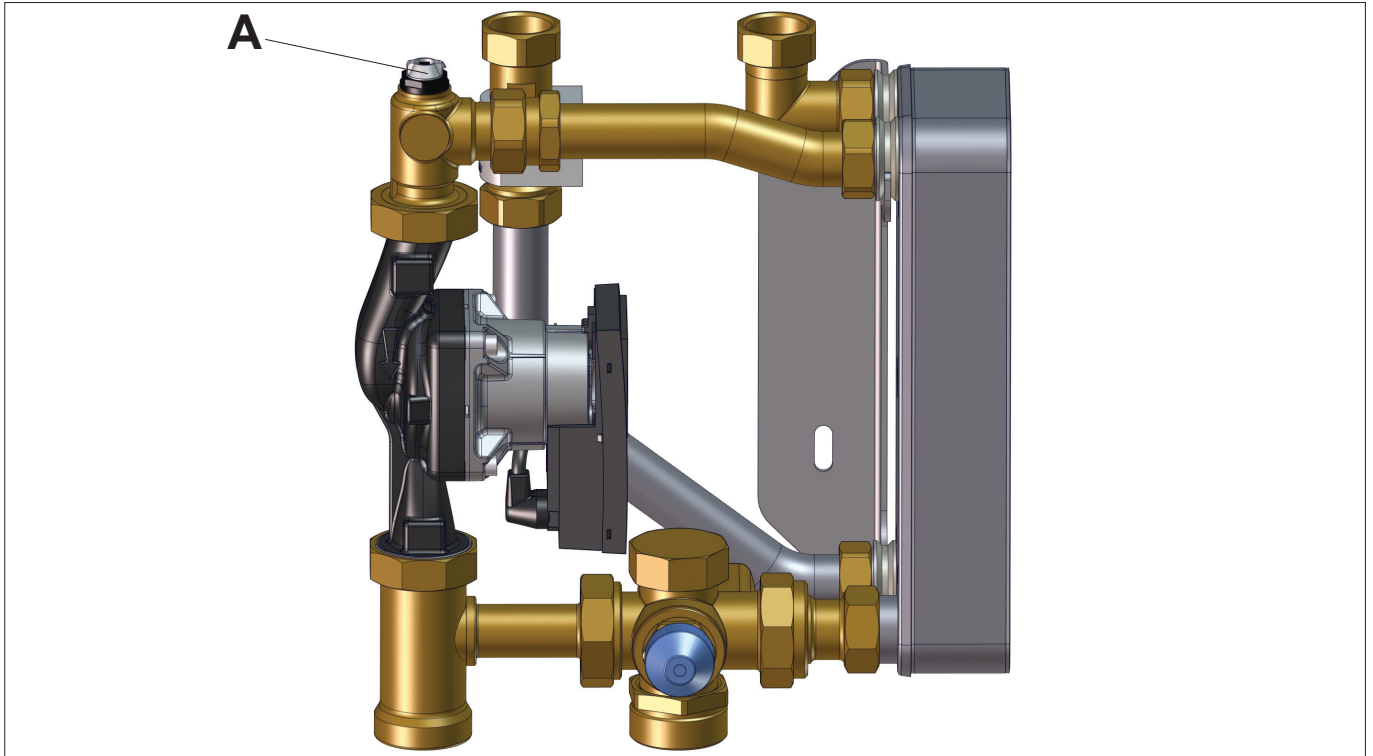

Fig. 6: Venting valve
2. Open the venting valve (item A, Fig. 6) and keep it open until no more air escapes.
4. De-pressurise the Friwa Compact (for example by opening the bleeder screws, Fig. 6 on page 12).